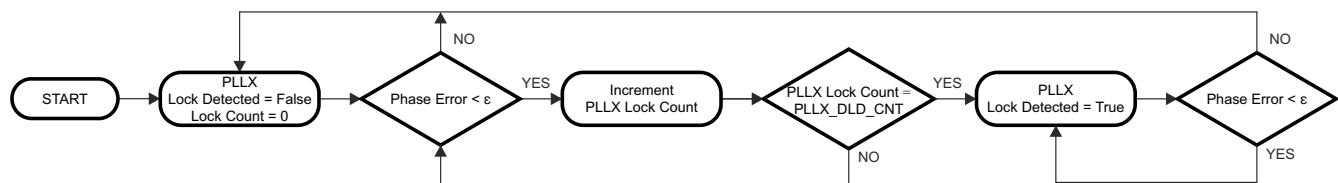

Figure 8-8. Digital Lock Detect Flowchart
Both PLL1 and PLL2 support digital lock detect. Digital lock detect compares the phase between the reference path (R) and the feedback path (N) of the PLL. When the time error, which is phase error, between the two signals is less than a specified window size (ϵ) a lock detect count increments. When the lock detect count reaches a user specified value, PLL1_DLD_CNT or PLL2_DLD_CNT, lock detect is asserted true. Once digital lock detect is true, a single phase comparison outside the specified window will cause digital lock detect to be asserted false. This is illustrated in Figure 8-8.